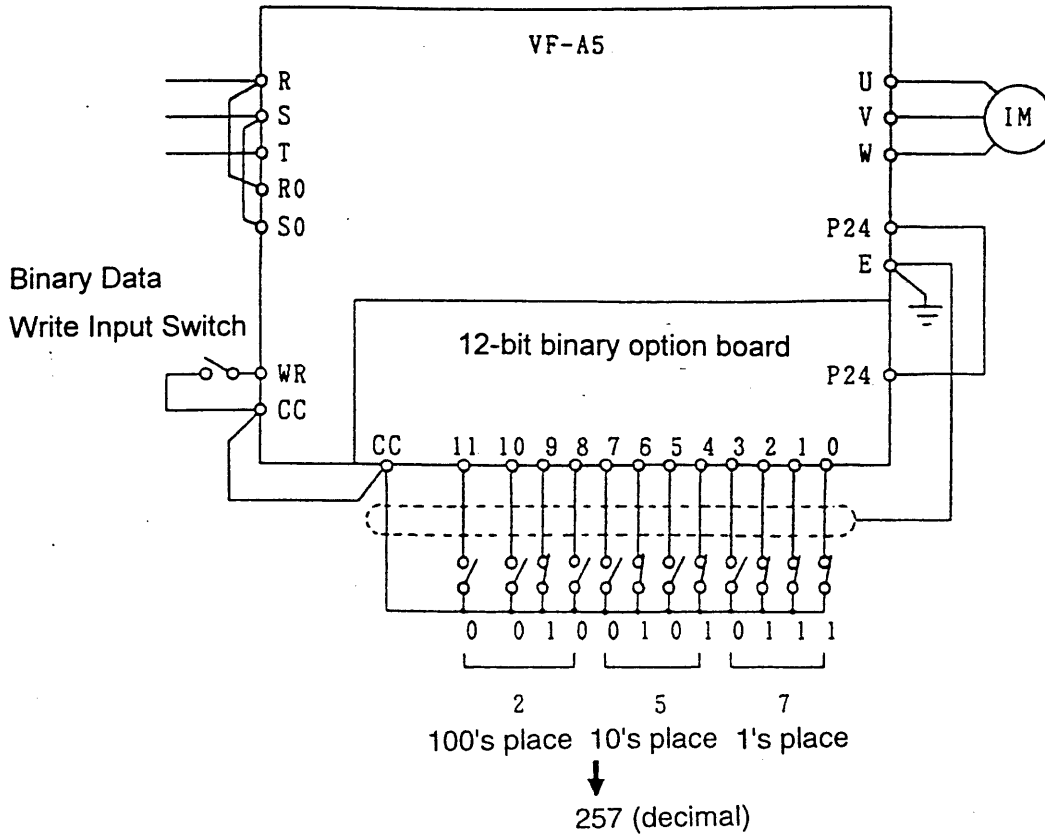

Figure 3-1-3 Sample Contact Input for 3-digit BCD Input
(5) Figure 3-1-3 shows an example of contact input for 3-digit BCD input.